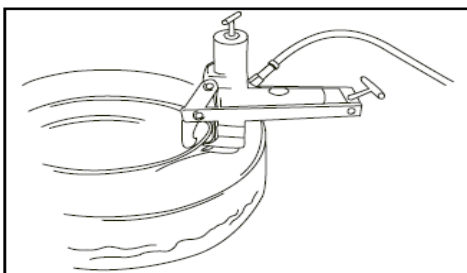

Figure 5
3. Maintain the bead breaker, so that it is nearly perpendicular (90°) to the rim.(See Fig. 5.) If necessary, adjust the position of the bead breaker.